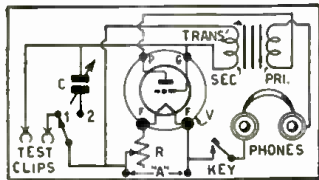

Fig. 2. A capacity bridge.
**A CAPACITY BRIDGE.** This simple arrangement, shown in Fig. 2, may be made up in portable form as a handy piece of test equip-